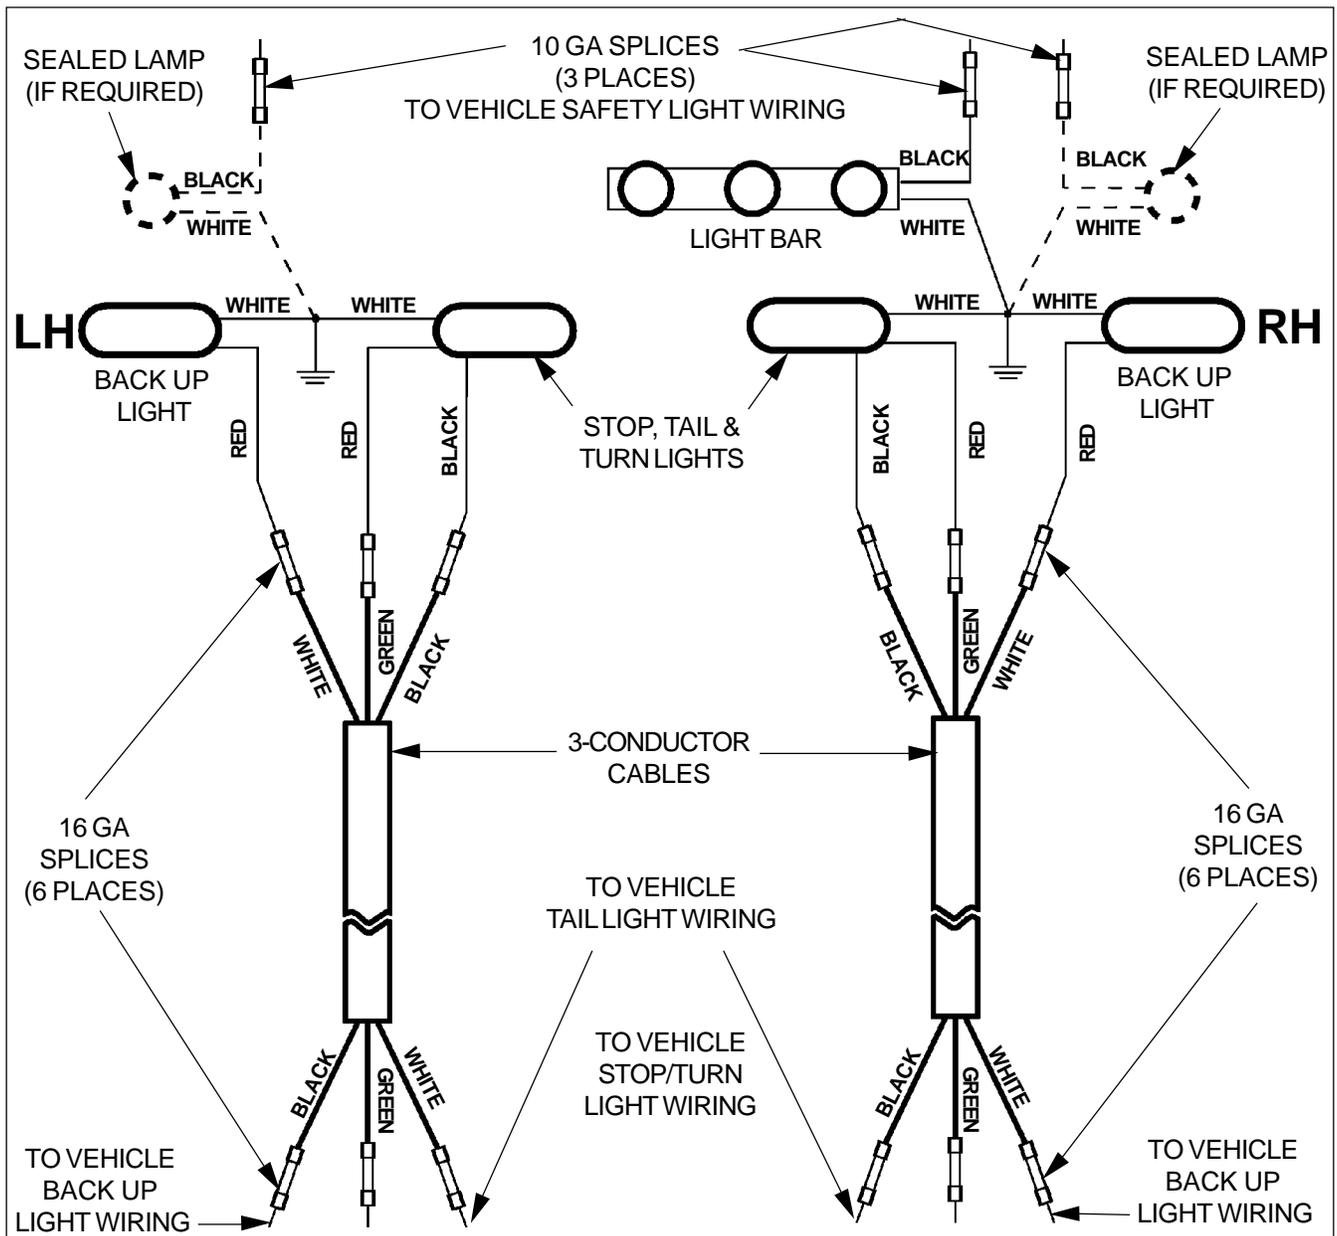

FIG. 7
- Disconnect (-) battery cable from vehicle battery. Splice the colored (+) wiring for the Tail Light & Turn Lights, Back Up Lights, Sealed Lamps and Light Bar to original vehicle wiring as shown in **FIG. 7**. If necessary, splice some of the 3 conductor cable between the wiring on the new lights and the wiring for the original vehicle lights (**FIG. 7**). Install split loom over the new wiring as required.